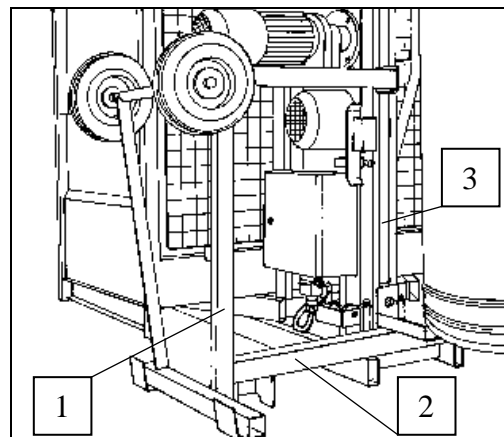

Fig. 26 Shunting gear
- Close safety device (Fig. 26) via loading gate so that the lever engages. - To erect the mast, the installation engineer travels on the load platform.